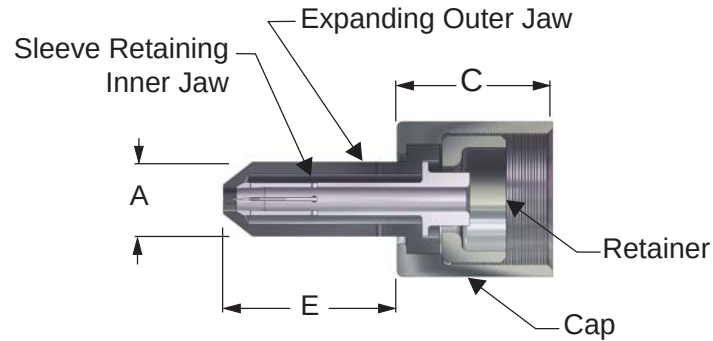

Figure 2.3-34
- Consists of a four-part assembly including cap, retainer, sleeve retaining (inner) jaw, and expanding (outer) jaw that extends 1-5/8 inches from the face of the cap for the Medium Brute Puller (Figure 2.3-34).